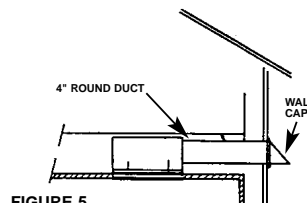

FIGURE 5
- Attach four inch diameter duct to duct adapter and run to roof cap or wall cap. See Figs. 5 & 6.
- Refer to wiring diagram for wiring and **Figure 5 & 6** for duct work.